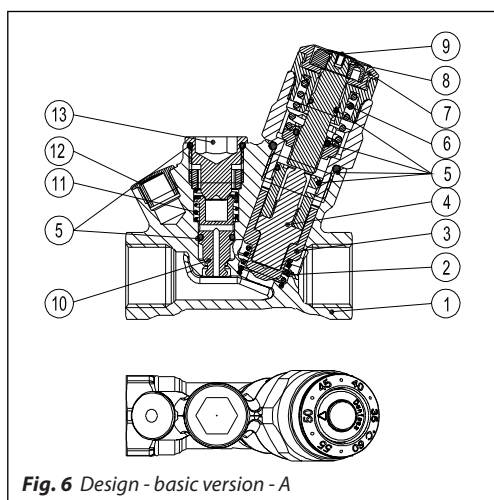
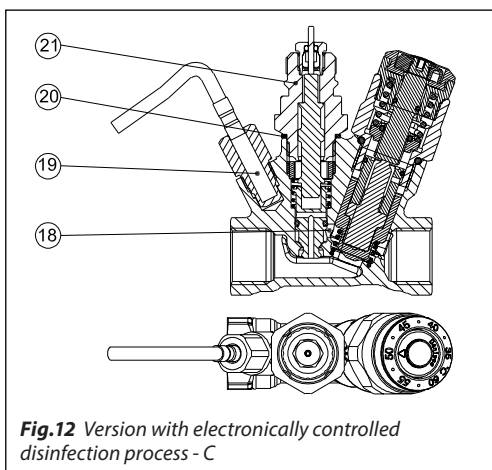

Fig. 6 Design - basic version - A
Fig.12 Version with electronically controlled disinfection process - C
The MTCV is a thermostatic self-acting, proportional valve. A thermo-element (fig. 6 elem. 4) is placed in the valve cone (fig. 6 elem. 3) to react to temperature changes.
A safety spring (fig. 6 elem. 6) protects the thermo-element from being damaged when the water temperature exceeds the value on the set point.
After removing the plug from the disinfection plug (fig. 6 elem. 13) - (this can be done during working conditions, under pressure) the thermostatic disinfection module can be mounted (fig. 9 elem. 17).
- 1-13 As described in fig. 6
After removing the disinfection plug (fig. 6 elem. 13) the adapter can be mounted (fig. 12 elem. 21) and the thermo actuator TWA can be mounted.
A temperature sensor PT 1000 has to be mounted in the thermometer head (fig. 12 elem. 19). Thermo-actuator and sensor are connected to the electronic regulator CCR2+ which allows an efficient and effective disinfection process in each circulation riser. The main regulation module works within the temperature range 35-60 °C. When the disinfection process/thermal-water treatment starts CCR2+ controls the flow through MTCV via thermo-actuators TWA. Benefits of an electronic regulated disinfection process with CCR2+ are: